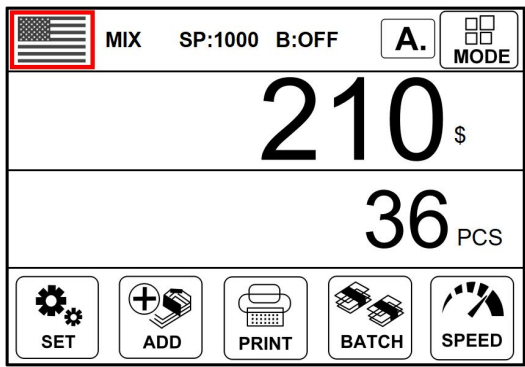

Figure 22
2) Example: Put a handful of US dollars into the machine to count. The interface of the machine displays as follows at the end of counting: The flag in the upper left corner is identified as US dollars, as shown in the following Figure 22.